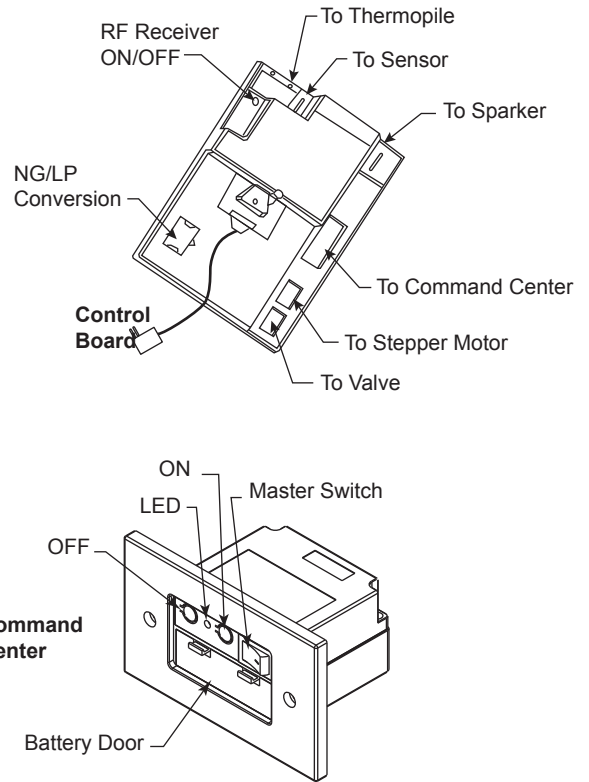

Figure 58 - Signature Command System Components
1. The RF receiver button located on the Control Board must be in the on position before the learn function can begin. Use paper clip to depress button. One beep for RF receiver ON or two beeps for RF receiver OFF will be given as confirmation. Refer to Figure 58 for location.